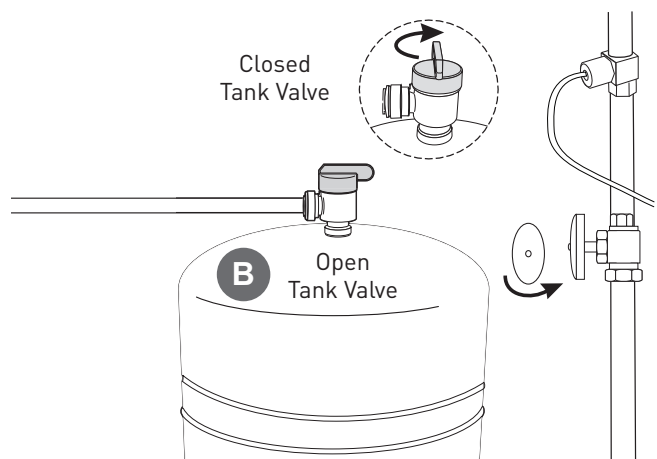

Figure 14
- A. Make sure cold water faucet is "off" (Figure 14).
- Make sure cold water faucet is "off" (Figure 14).